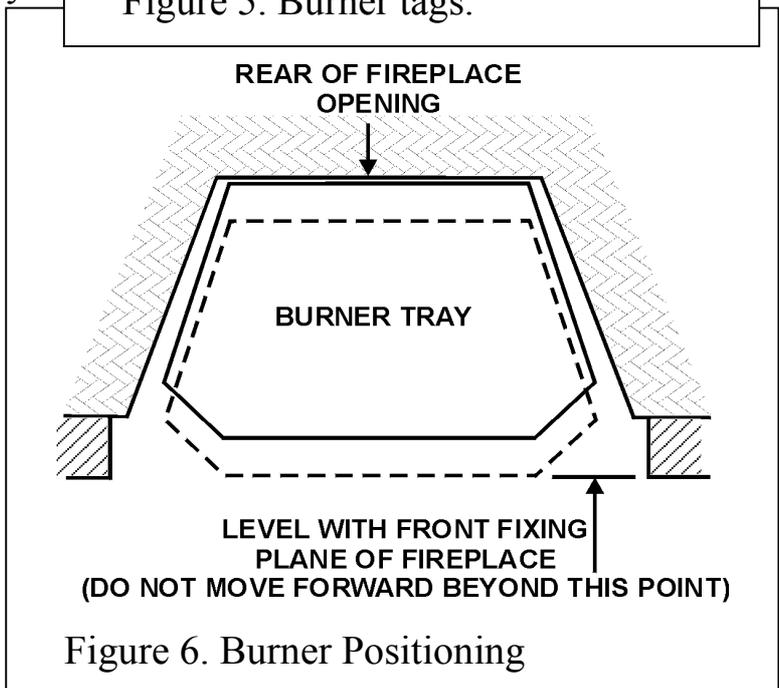

Figure 6. Burner Positioning
- Place the burner unit centrally within the fireplace opening. Position the burner to the rear of the opening, **this may be extended forward providing the front of the burner tray does not protrude beyond the front plane of the fireplace opening** (See figure 6).